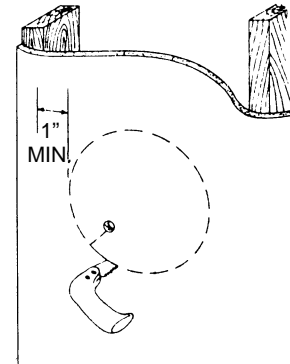

Figure 2
1. Cut round or square hole in sheathing at desired location in wall. Round holes should be  $9\frac{1}{8}$ " in diameter. Square holes should be  $9\frac{1}{8}$ " on a side. (See Figure 2.)
2. Working inside wall first, draw a circle 9 $\frac{1}{8}$ " in diameter at determined location. Be sure opening is at least one inch from studs. (See Figure 2.)